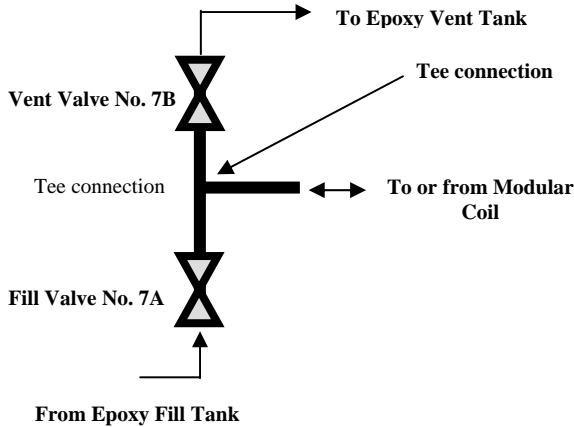

Figure 6- Typical Zone 2 Valve Assembly
- Continue filling operations until the epoxy exits sprues 9 thru 35 [Zone 2] and approaches the tee connection. [Figure 6- Typical Zone 2 Valve Assembly] Once the line from the manifold “A” valve to the tee connection is filled, **open** the corresponding “A” valve and **close** the corresponding “B” valve. This allows that sprue to be used for filling the coil.